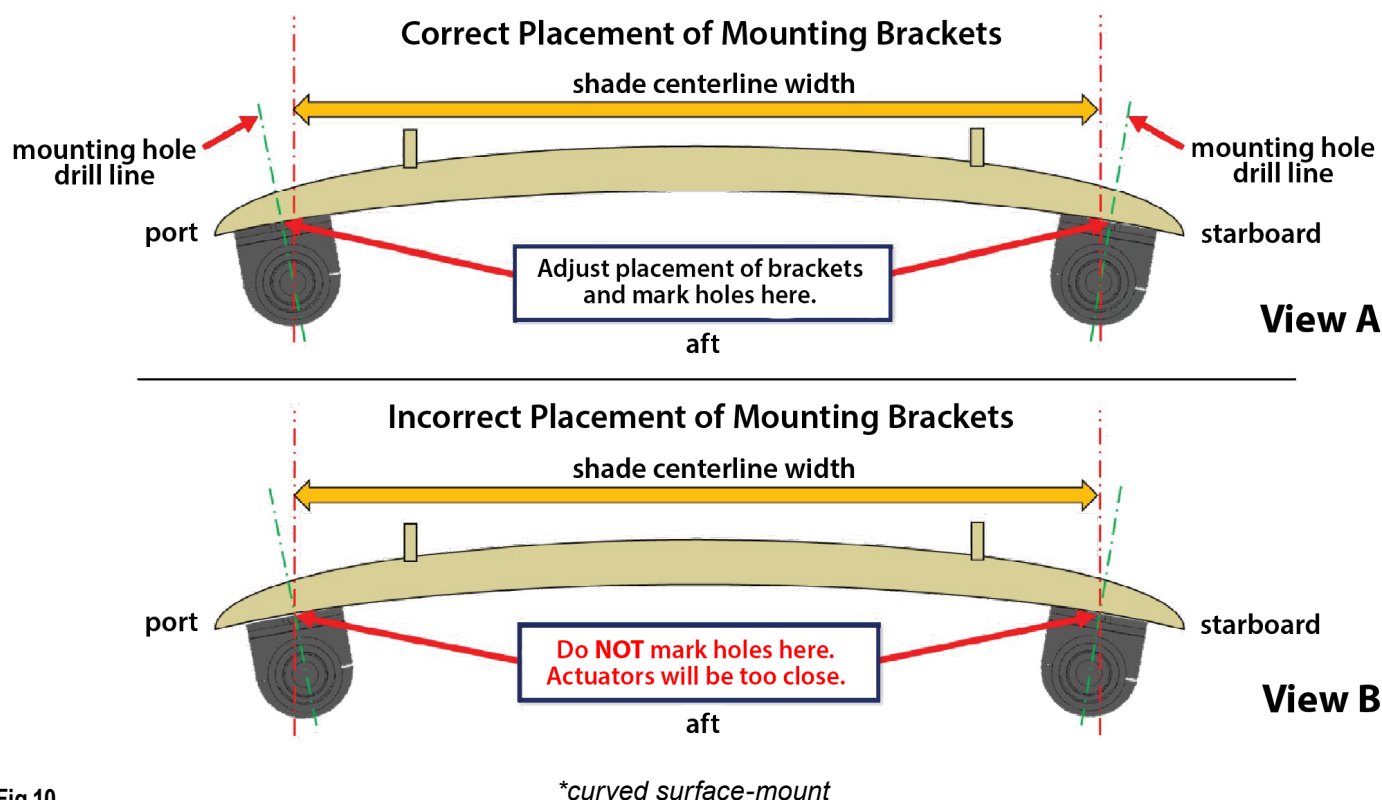

Fig.10
B. To determine mounting hole location for an underside surface mount on a hardtop with curvature*, see figure 10. The mounting holes will ultimately be drilled wider than the shade centerline.
B. For curved surface mount*, drill on an angle perpendicular to surface (Fig.10, VIEW A).